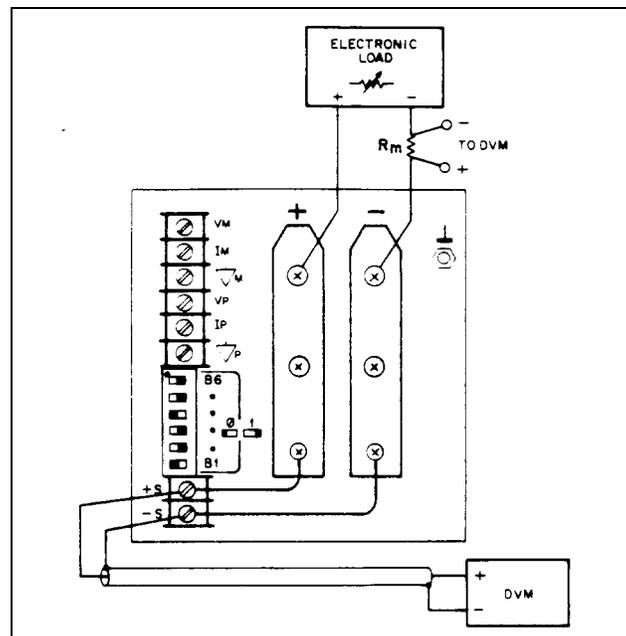

Figure 2-3. Basic Test Setup
- Connect the test equipment as shown in Figure 2-3. Operate the load in constant resistance mode (Amps/Volt) and set resistance to maximum.
- a. Connect the test equipment as shown in Figure 2-3. Operate the load in constant resistance mode (Amps/Volt) and set resistance to maximum.
Use the equipment setup of Figure 2-3 to display output voltage transients while switching the load between 10% with the output set at:
- Connect the test equipment as shown in Figure 2-3. Operate the load in constant-current mode and set for minimum current.